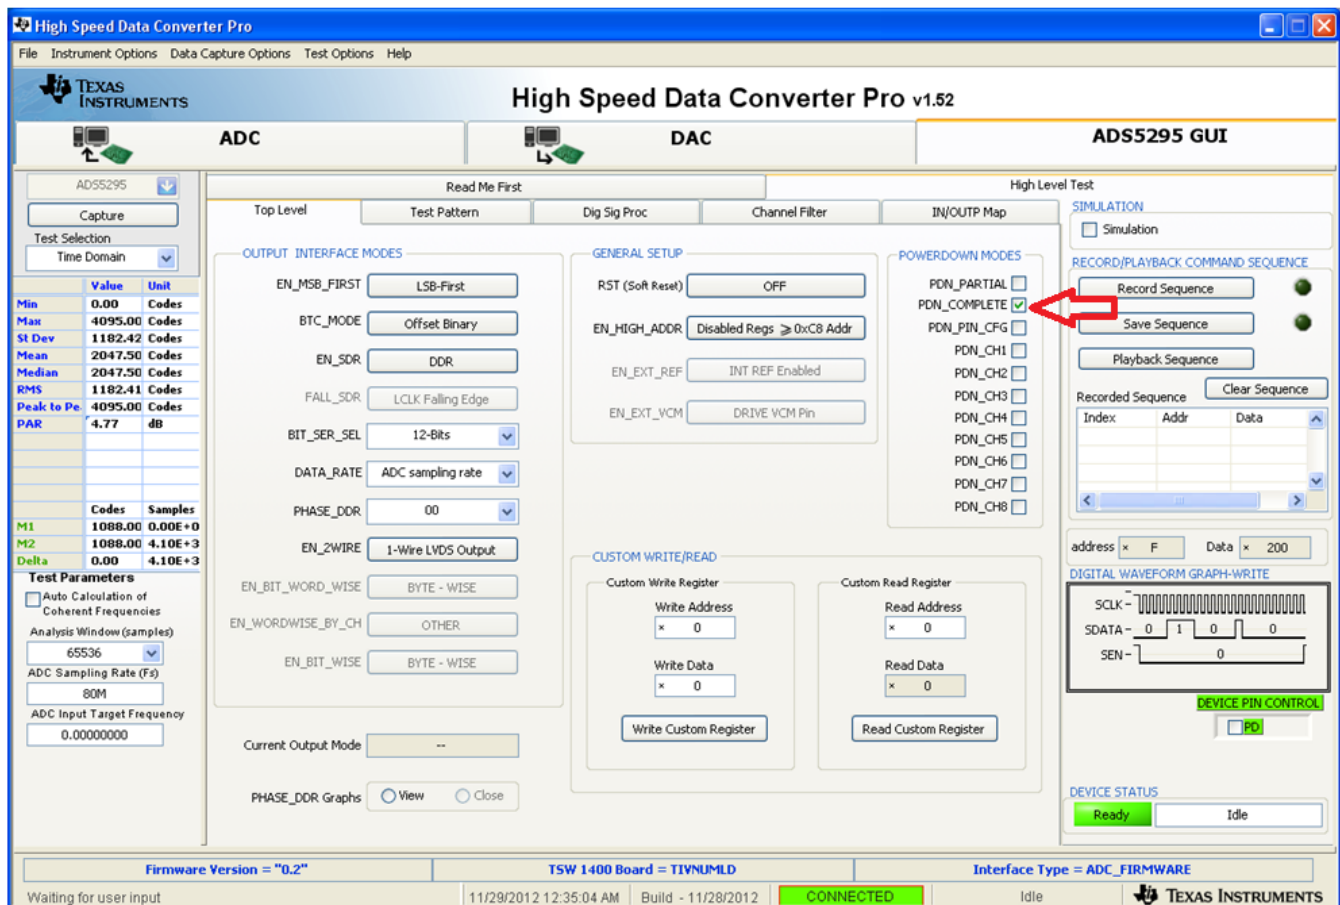

Figure 8. Top Level Tab
- The *High Level Test* tab contains five sub-tabs: *Top Level*, *Test Pattern*, *Dig Sig Proc*, *Channel Filter*, *IN/OUTP Map*. The default tab is the *Top Level* tab as shown in Figure 8.